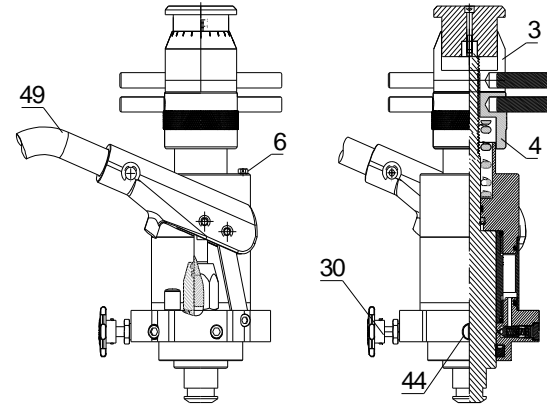

Fig .6
7. Remove the filler plug (**Fig.6**) to add hydraulic oil (loosen the relief valve, remove all the dusts near the filler aperture). Use 20# hydraulic oil in Summer and 10# in Winter. Unscrew the discharge screw (**Fig.6**) before discharging all the dirt used oil.